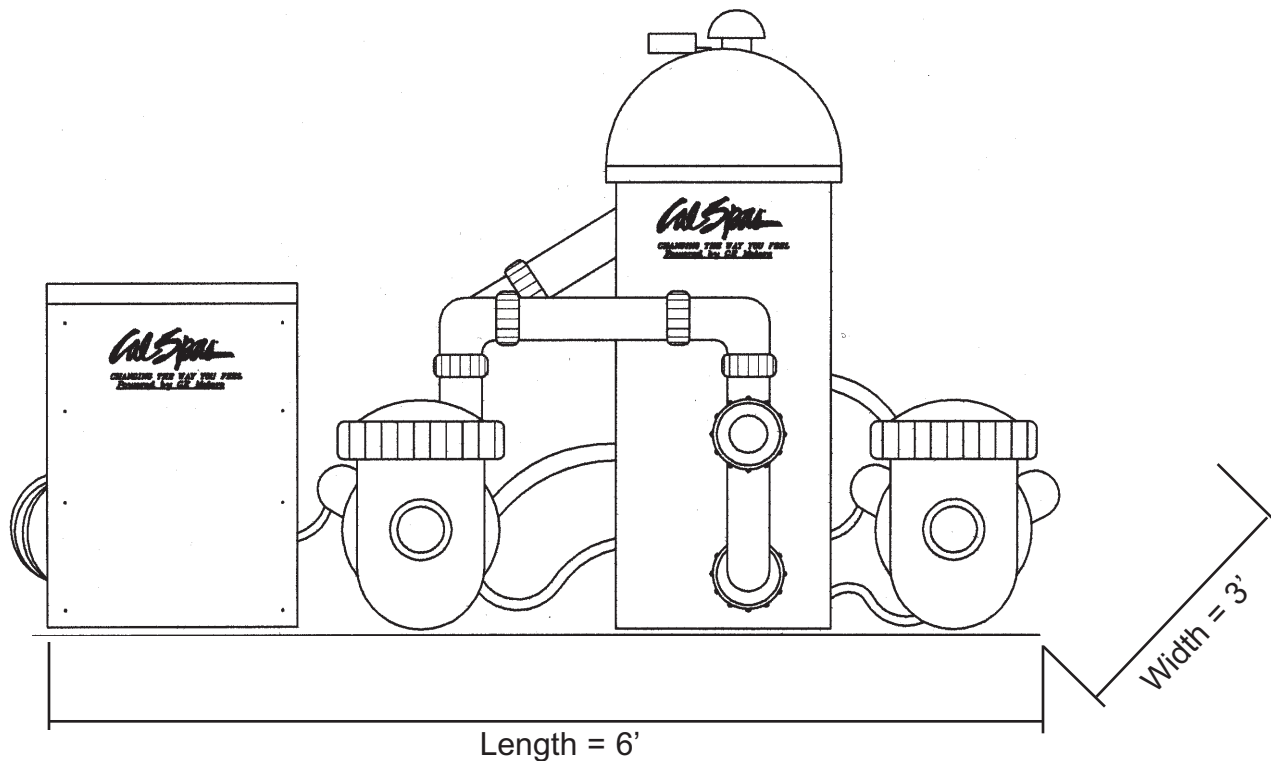

Figure 2. Equipment Pack.
8. The equipment pack and heater are delivered separately. See **Figures 2, 3, and 4** for sizes.